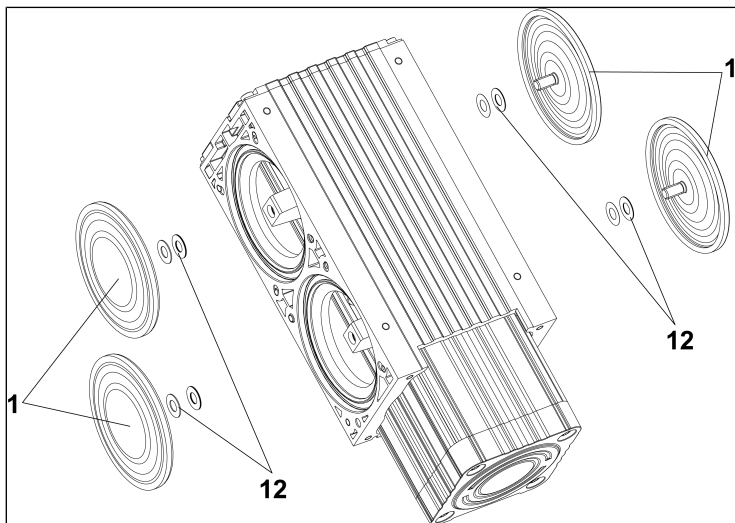

Fig. 13: Diaphragm replacement
1. Unscrew the two diaphragms (1/Fig. 13) counterclockwise by hand.
**i** Make sure that the shim rings (12/Fig. 13) located between the diaphragm and the connecting rod do not fall into the pump housing. To ensure pneumatic performance of the pump, make sure to reinstall the exact number of shim rings (12/Fig. 13) as removed.
2. Screw the new diaphragms (1/Fig. 13) into the thread of the connection rod by hand and tighten them hand-tight.
3. Move the diaphragms (1/Fig. 13) to top dead center.